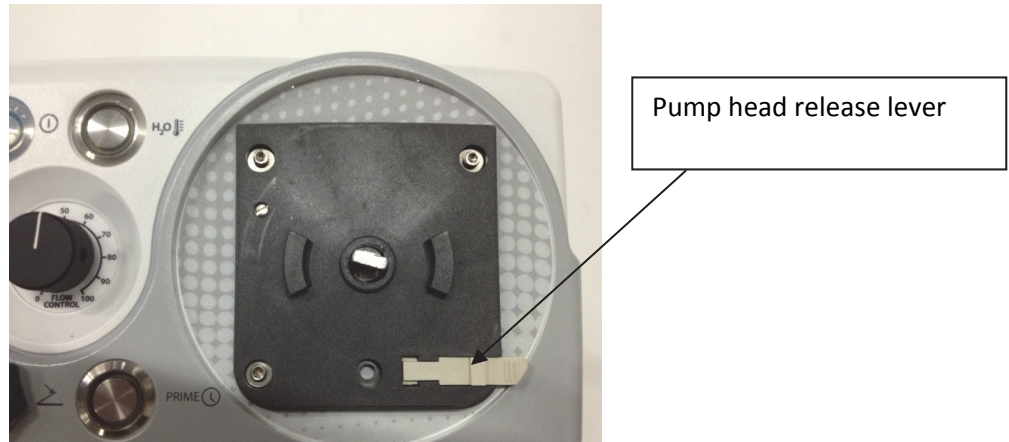

Figure 2
- Adjust the motor shaft so it is angled at the 10 o'clock position. See figure 2.